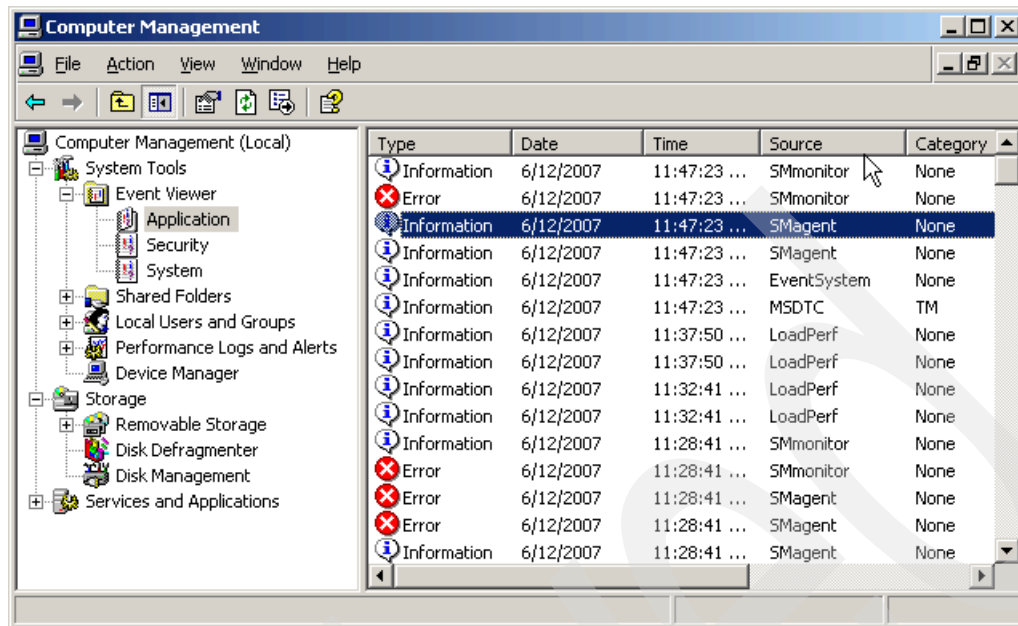

Figure 16-8 Application Event Log - SMagent service messages
1. The easiest way is to use the Automatic Host Access Configuration task. For this to work, the SMagent service must be installed and running in the host. An easy way to check this is by looking at the Application Event Log, as shown in Figure 16-8 on page 397.